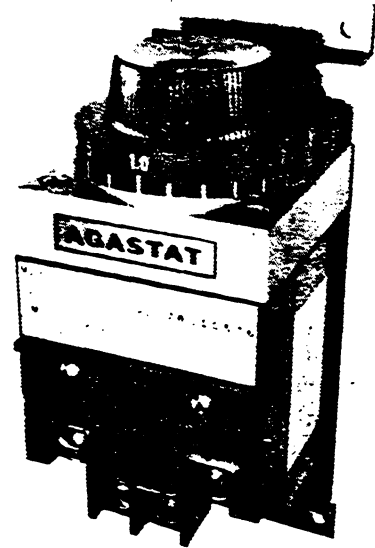

FIGURE 9. PROGRAMMED TRANSITION TIME DELAY RELAY
4. Locate the time delay relay (shown in Figure 9) in the rear of the cabinet on the transfer switch base assembly.